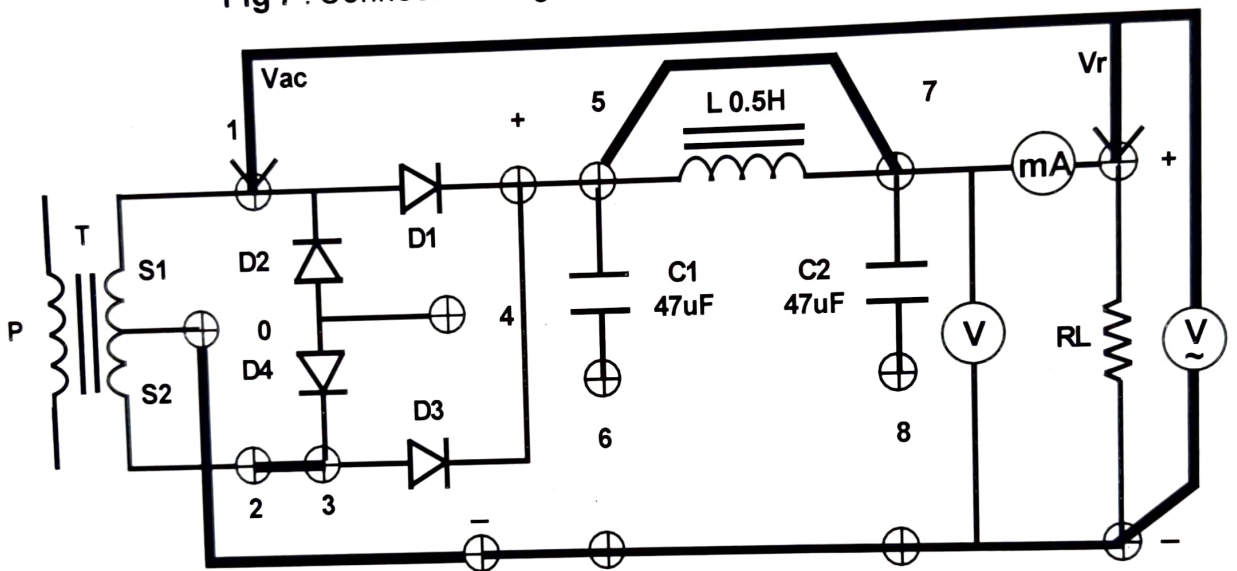

Fig 8 : Connection diagram for *full wave* rectifier circuit.
1. Connect the circuit as shown in fig 8, this will bring diode D3 in the circuit and it becomes a full wave rectifier circuit. Note that there is only one more patch cord is inserted in the previous circuit to convert half wave to full wave.